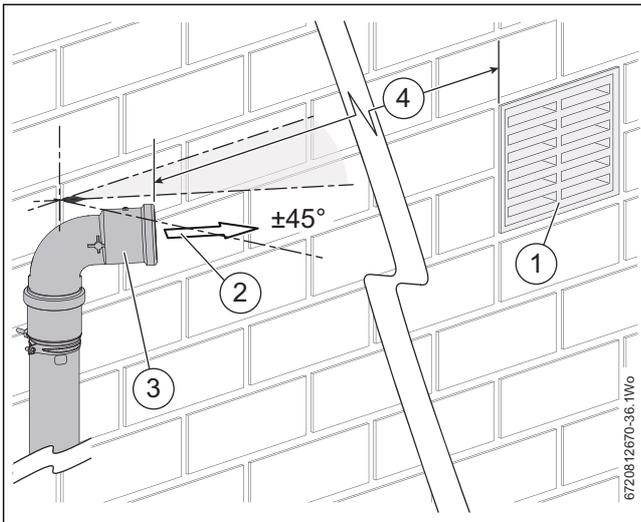

Fig. 38 Plume direction conditions
▶ The Plume terminal outlet position must follow the conditions stated in figure 38. When redirecting the flue discharge the outlet must be at least 1,500mm from and angle at least 45° away from any opening in the direction of the discharge, as shown. This is to prevent combustion products from entering the building.